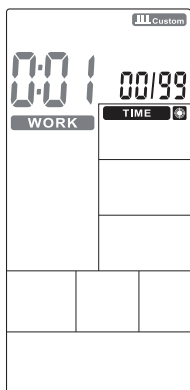

FIGURE 33
- The Time display and the word WORK along with 0:01 will flash, press UP / DOWN (KEYS 10 or 11) to set the training time between 0:00 ~ 9:59 (Figure 33). Press ENTER (KEY 19) to confirm and go to the next setting.